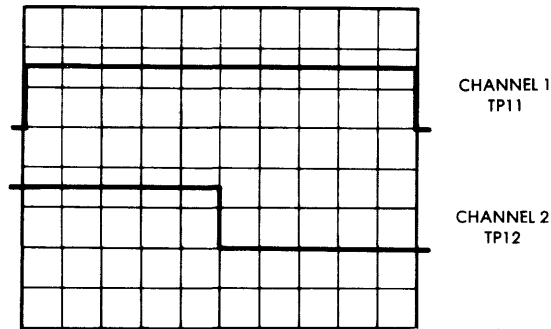

Figure 6-18. Quadrature Relationship Between Sector Phase-Lock-Loop Square Waves
The sector phase-lock-loop adjustment establishes the correct relationship between the phase-lock-pulse signal and the Voltage Controlled Oscillator (VCO) countdown signal. This relationship is shown in Figure 6-18.
- (1) Adjust Channel 1 trigger to display the low-to-high transition waveform. Adjust the sweep rate and horizontal position controls to position the leading and trailing edge of the waveform exactly 10 divisions apart. Refer to Figure 6-18.
- (2) Observe the waveform on Channel 2. The transition edge should occur at the center vertical graticule line within  $\pm 1/2$  of a major division. Refer to Figure 6-18.
- (1) Adjust the Sector Phase Lock Loop centering potentiometer R47 on the Logic PCBA to position the transition edge of the waveform on Channel 2 (TP12) to the center vertical graticule line.
- (2) Refer to Figure 6-18 for the correct positioning of the waveform.